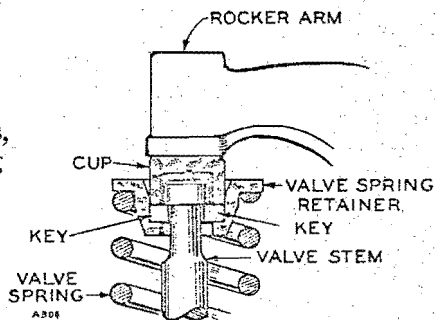

Fig. 16 Valve Rotators
**VALVE SERVICE.** - The engine is equipped with the "FREE" ROTO type exhaust valves, Figure 16. The valve rotates by using a special valve spring retainer and cap. While the valve is lifted, it is free to rotate due to natural vibration and turbulence of the exhaust gases and this scuffing action prevents the formation of any troublesome deposits.
The rotator mechanism has a clearance between the valve tip and the rotator cap, as shown in Figure 16. This clearance is required to obtain positive freedom of the valve during the lift cycle. Wear occurs principally on the keys and clearance should be checked at each reconditioning. Wear tends to increase the clearance and cause increased valve lash. Regular service stations have gauges to check the rotator clearance and where the clearance is too large it can be reduced by grinding off the cap to decrease its depth. The rotator parts tend to become matched parts within each assembly as they wear in. For this reason it is highly desirable to keep the parts from each assembly separate during the servicing operation and to reassemble them with their original valve wherever possible. In addition, each key should be installed in its original position and not turned over. If it is necessary to use a new valve, new caps and keys should be installed.